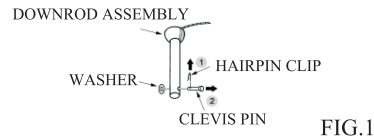

FIG.1
1. Remove the hairpin clip & washer from the clevis pin and remove clevis pin from down rod. (See fig.1)
NOTE: After the AC power is on, do not press any other button on the wall transmitter before pressing the "SET" button(in the small plate), doing so will cause the procedure to fail.(Fig.1)